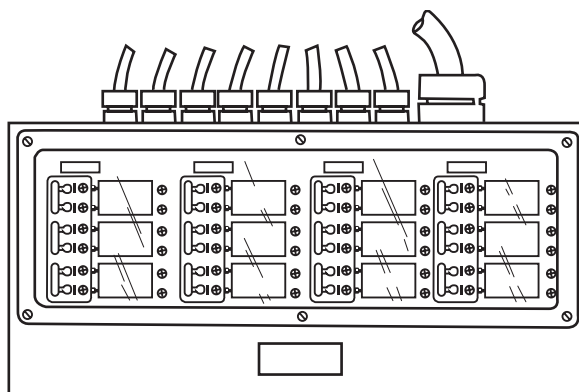

Figure 11. Machinery DC Control Distribution Panel
- k. Machinery DC control distribution panel (figure 11), located in the engine room on the aft bulkhead of the EOS.